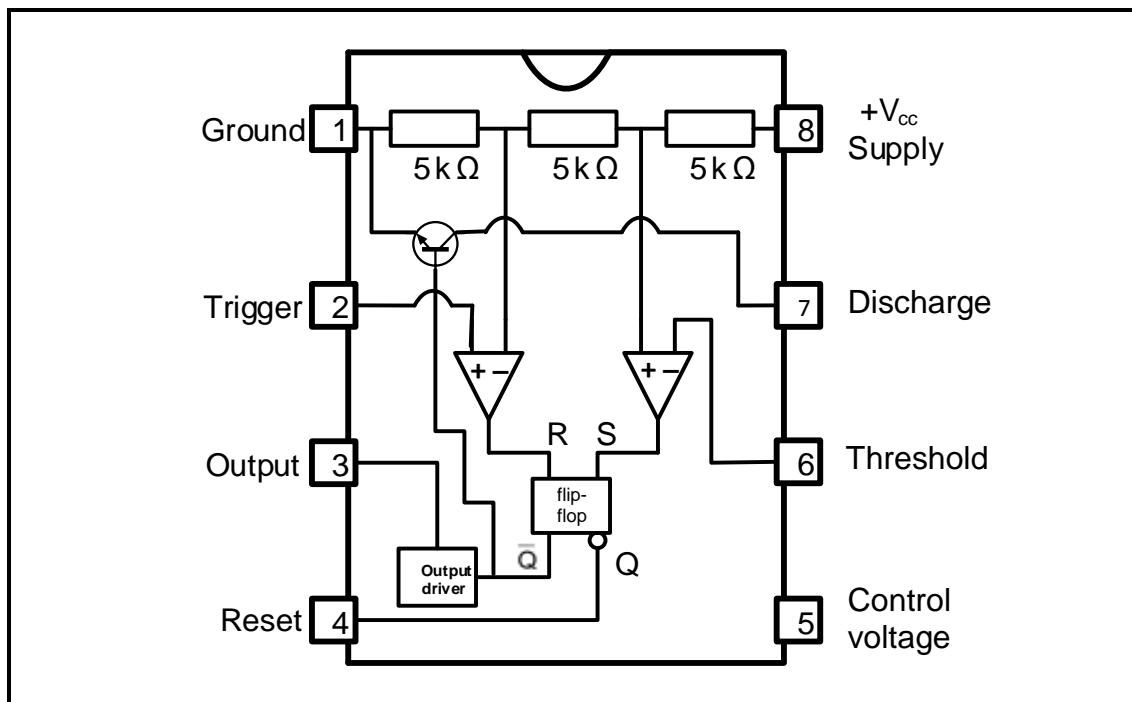

FIGURE 3.3: INTERNAL BLOCK DIAGRAM OF A 555 IC
- 3.3 FIGURE 3.3 below shows the internal block diagram of the 555 IC. Answer the questions that follow.